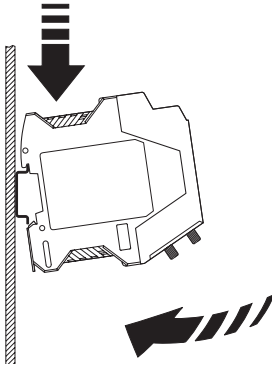

Figure 9 Assembly in the control cabinet
- Place the device onto the DIN rail from above. The upper holding keyway of the device must be hooked onto the top edge of the DIN rail (see Figure 9).